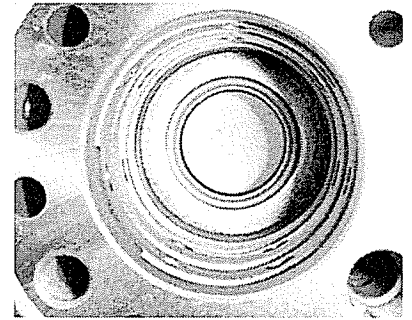

Figure 20
- 15. Inspect seal installation. Seal and o-ring must both be within shaft seal counter bore of housing (figure 20)